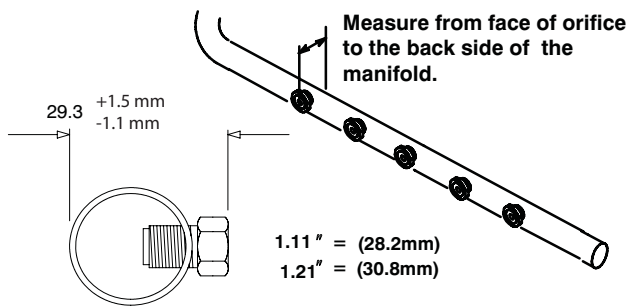

Fig. 3 - Changing Orifices
2. Tighten the orifices so they are seated and gas tight about $1\text{-}\frac{1}{8}\text{'}$ (28.6 mm) from the face of the orifice to the back of the manifold pipe (Fig. 3). Make sure orifice is installed straight so that it forms a right angle (90°) to the manifold.